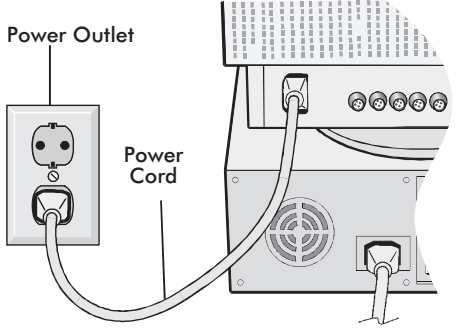

Figure D.1
4. Connect one end of the power cord to the MultiSync FP Series monitor and the other end to the power outlet (Figure D.1).